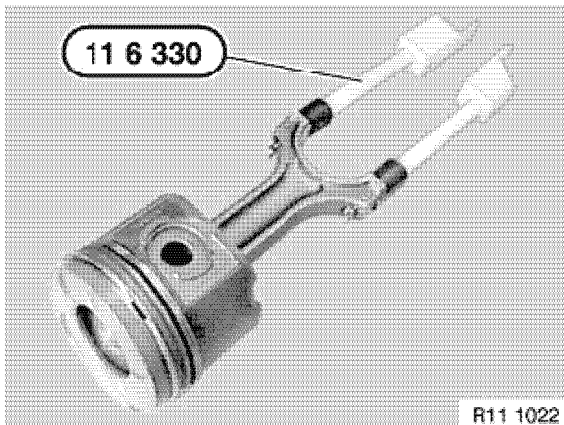

Figure 5-58
5. Install special tool OEM No. 11 6 330 on connecting rod (**Figure 5-58**).